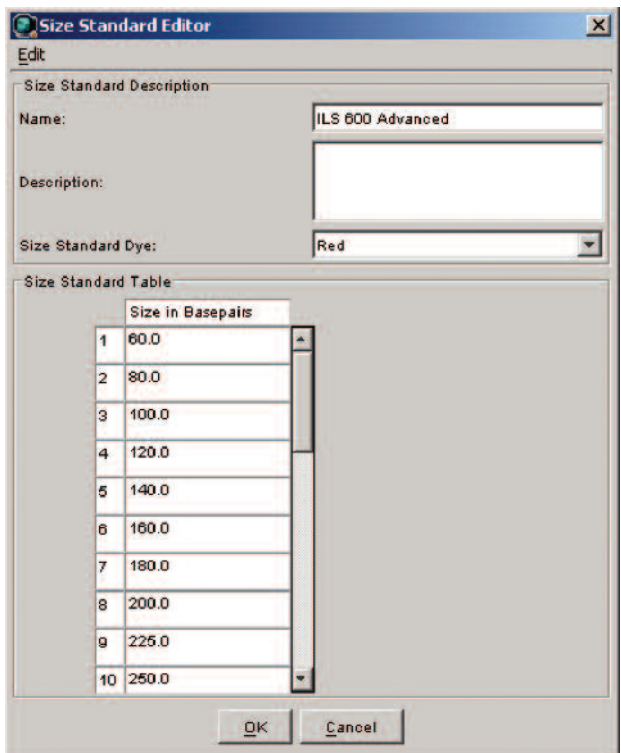

Figure 4. The Size Standard Editor.
5. Enter a detailed name, such as “ILS 600 Advanced”, in the Size Standard Editor (Figure 4).